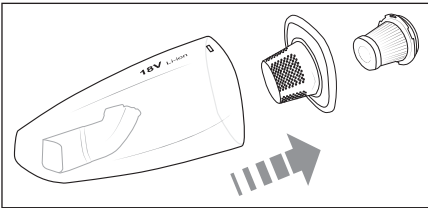

Fig. 6
- 4) Then pull the coarse filter **7** out of the dirt container **8** (Fig. 6). Tap out both filters **6**/**7** over a rubbish bin or similar. If necessary, you can rinse out the filters **6**/**7** with fresh water. Allow the filters **6**/**7** to air dry fully afterwards before re-inserting them.